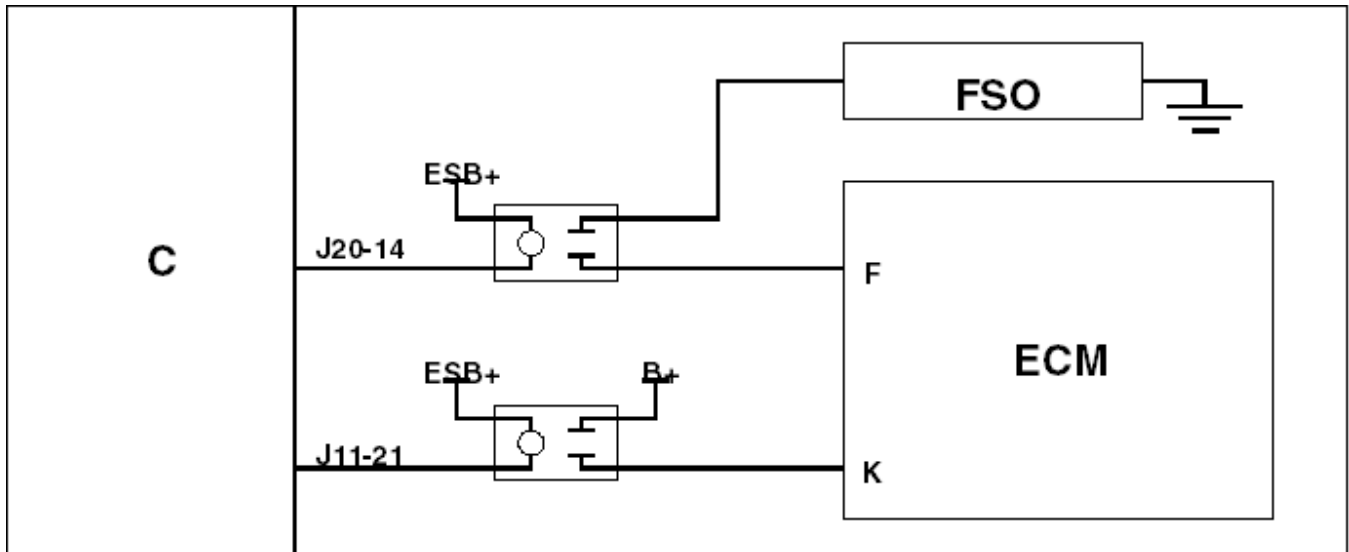

FIGURE 83. KEYSWITCH CONNECTIONS WHEN ECM CONTROLS FUEL SHUTOFF SOLENOID
- Figure 83. Keyswitch Connections When ECM Controls Fuel Shutoff Solenoid 457